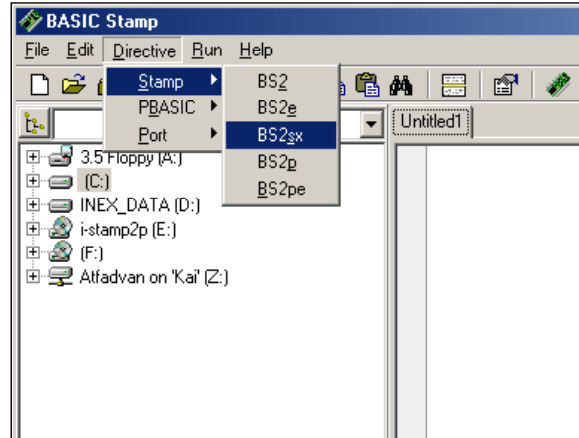

Figure A1-4 Selection BASIC Stamp directive. (select BS2SX)
1.5.1 Select BASIC Stamp type by BASIC Stamp directive. Enter Directive menu and select Stamp → BS2SX following figure A1-4. The message **{ $\$$ STAMP BS2SX}** appears on first line. Press Enter key.